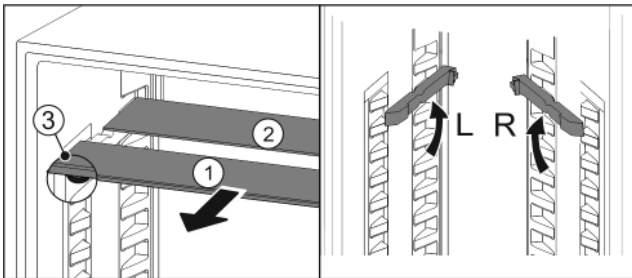

Fig. 140
- ▶ Pull the glass panels out Fig. 140 (1) from the front, one at a time.
- ▶ The glass panel Fig. 140 (1) and trim strip are at the front.
- ▶ The stops Fig. 140 (3) point down.